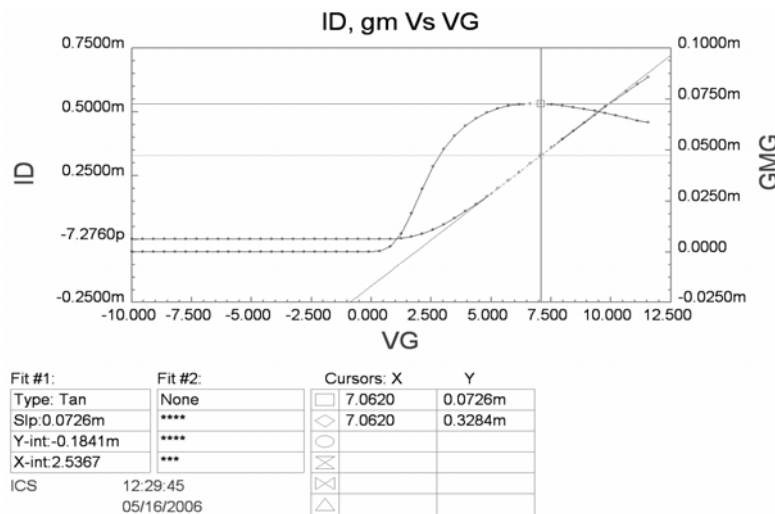
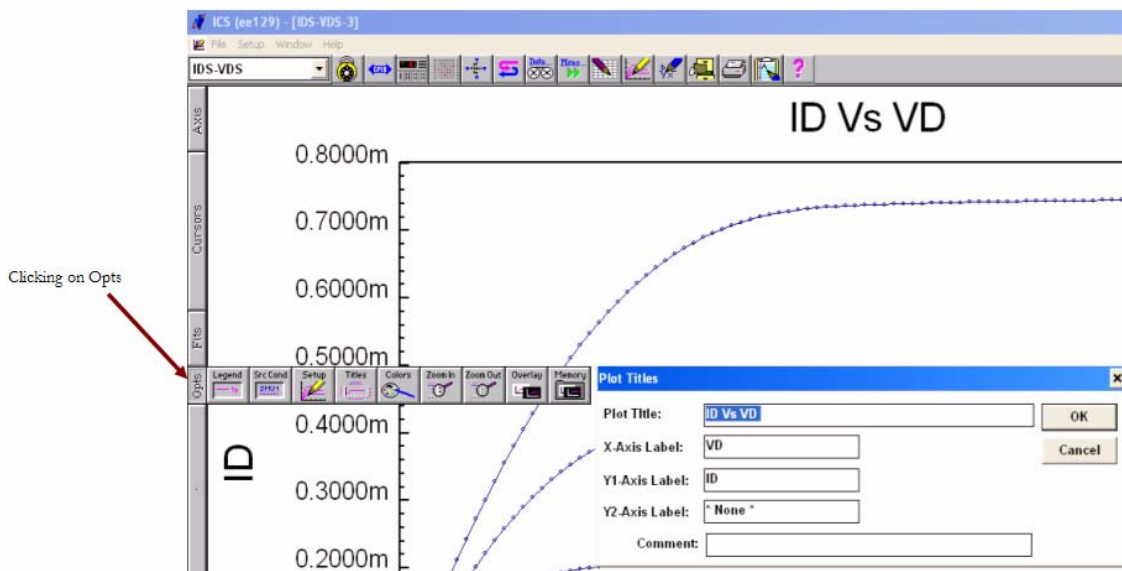
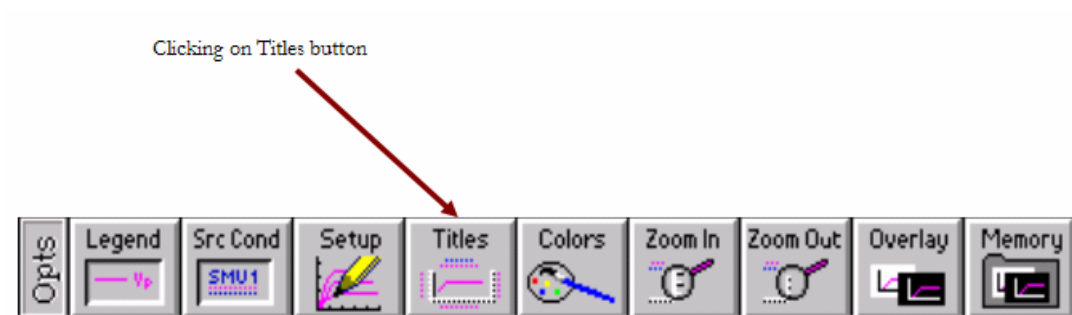
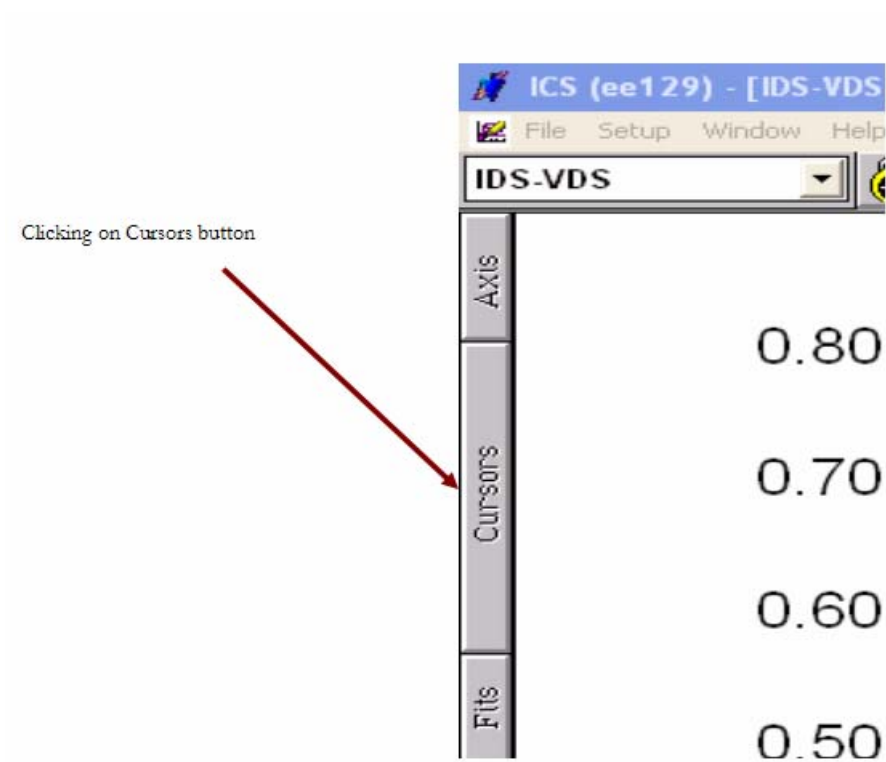

Figure 30: ID, GM vs. VG
Figure 35: Plot Titles window
Figure 36: Opts window
Figure 37: Cursor button (left side of ICS window)
3. A GM graph should pop-up with two curves, like Figure 30
- A graph similar to Figure 30 should pop up. When putting a title on the graph, click on Opts on the left side of the GM graph, see Figure 35.
- The following menu should pop up like in Figure 36. Click on Titles, the Plot Titles window should pop-up like in Figure 35.
8. After having the following graph like in Figure 30, we are ready to measure V_t . To obtain GM_{max} , click on Cursors on the left side of the GM graph, see Figure 37.
11. Once the cursors are applied to Y1 (ID vs. VG curve), move the cursor to be aligned with the vertical axis of the GMmax, like in Figure 30.